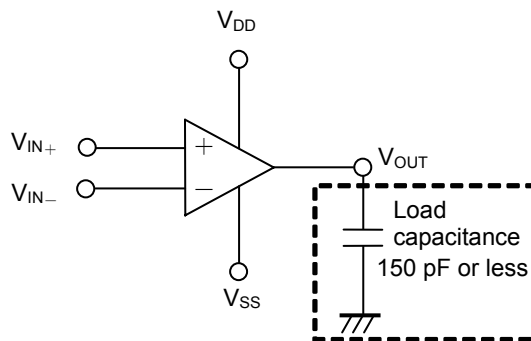
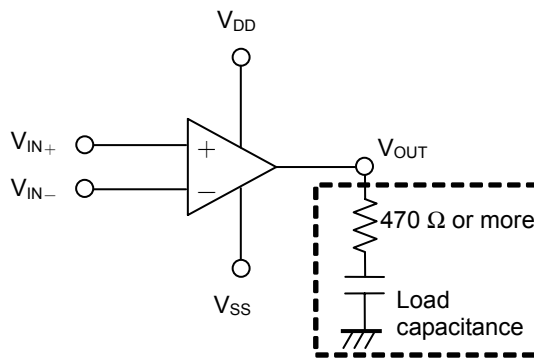

Figure 15
Figure 16
- This IC operates stably even directly connecting a load capacitance 150 pF or less to the output pin, as seen in **Figure 15**. When using a load capacitance 150 pF or larger, set a resistor 470 Ω or more, as seen in **Figure 16**. In case of connecting a filter for noise prevention, and using a load capacitance 150 pF or more, also set a resistor 470 Ω or more as seen in **Figure 17**.